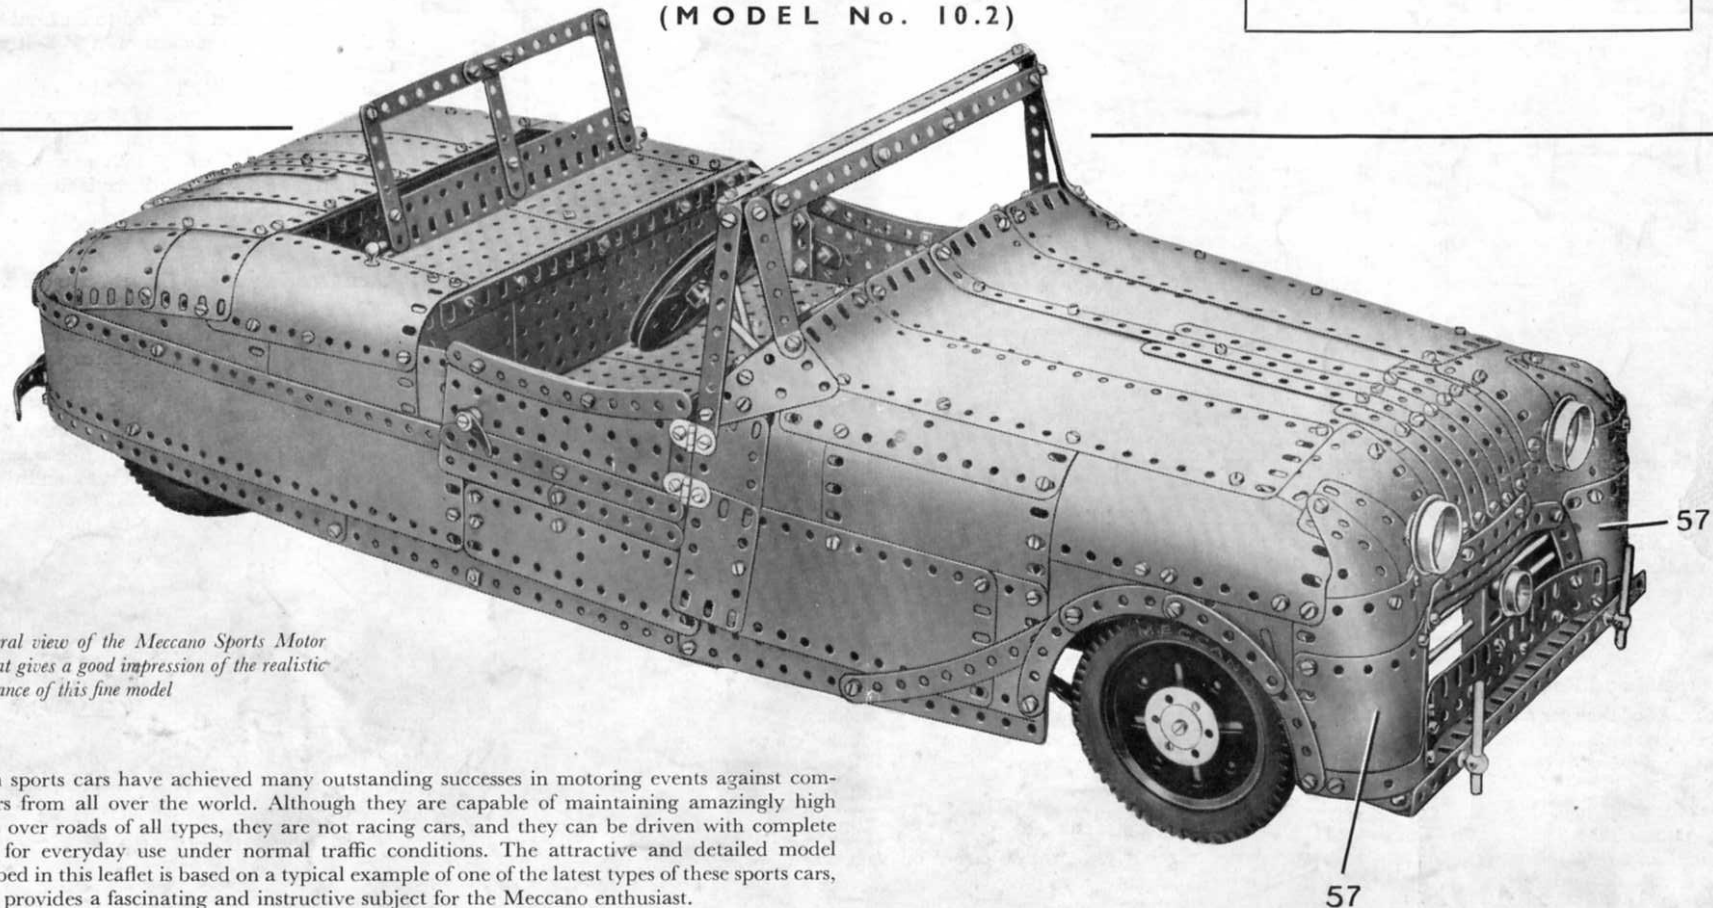

FIG. 1
The general arrangement of the Plates that form the sides and the top of the body is shown clearly in Figs 1, 9, and 10. The curved front is formed by a $3\frac{1}{2}'' \times 2\frac{1}{2}''$ Flexible Plate (57) on each side, and the lower corners of these are connected by a $7\frac{1}{2}''$ Flat Girder. A $9\frac{1}{2}''$ Flat Girder is